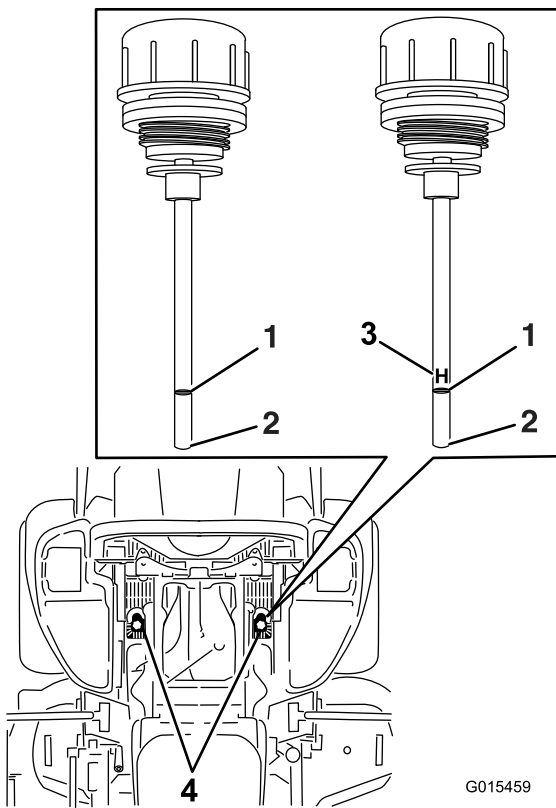

Figure 86
6. Clean the area around the dipsticks of hydraulic system reservoirs (Figure 86).
7. Remove one dipstick from the hydraulic reservoir (Figure 86).
9. Remove the dipstick and look at the end (Figure 86). If the oil level is at the add mark, slowly pour only enough oil into the hydraulic reservoir to raise the level to the full or **H** line.